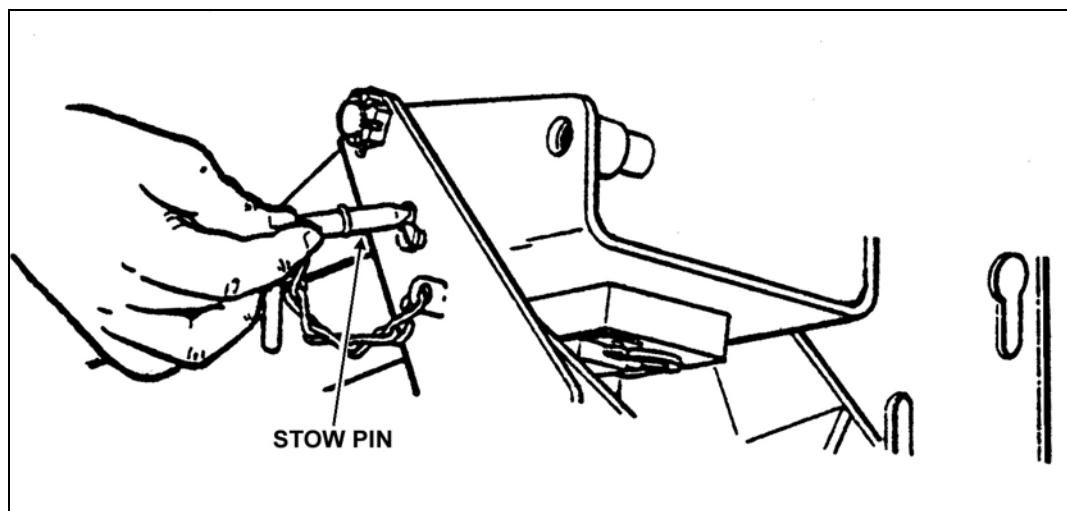

Figure 3-5. Stow pin.
- (2) Remove the stow pin from the gun cradle (Figure 3-5).